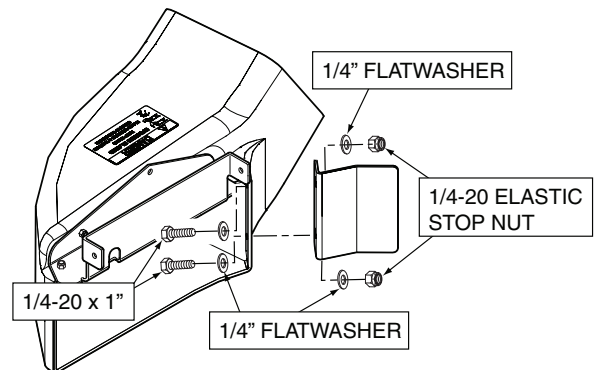

Figure 2-6. Blower Installation
5. Install the deflector baffle included with the catcher installation kit to the discharge boot and secure using (2) 1/4-20 x 1" hex head bolts, (4) 1/4" flatwashers and (2) 1/4-20 elastic stop nuts. See Figure 2-6. Tighten the hardware.